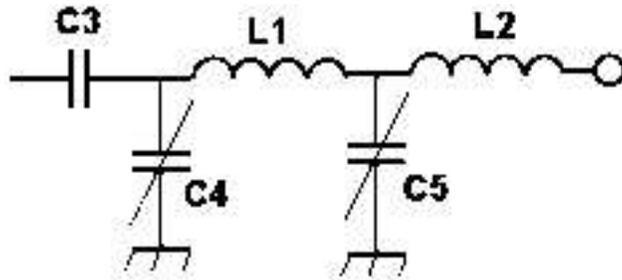

Figure 3, Pi-L Output Coupling Network
1. The advantage of using a Pi-L network output coupling as shown in figure 3 above, is that it has the ability to provide a greater transformation ratio (feed line impedance), and provide better harmonic suppression. Keep in mind; however, the voltage handling capacity of C5 (Load Capacitor) will be somewhat higher with the addition of L2. Consequently, a transmitting type Air Variable or Vacuum Variable Capacitor must be used for C5.